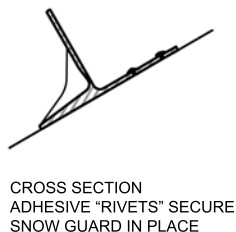

FIG. 2
2. PRESS DOWN FIRMLY ON THE SNOW GUARD TO "SET" SNOW GUARD INTO PLACE TO REMOVE ANY AIR POCKETS AND CAUSE EXTRA ADHESIVE TO FORM AN EDGE SEAL AROUND THE ENTIRE SNOW GUARD. THIS SHOULD ALSO CAUSE ADHESIVE TO EXTRUDE THROUGH SCREW HOLES, RIVETING THE SNOW GUARD IN PLACE. (FIG. 2)